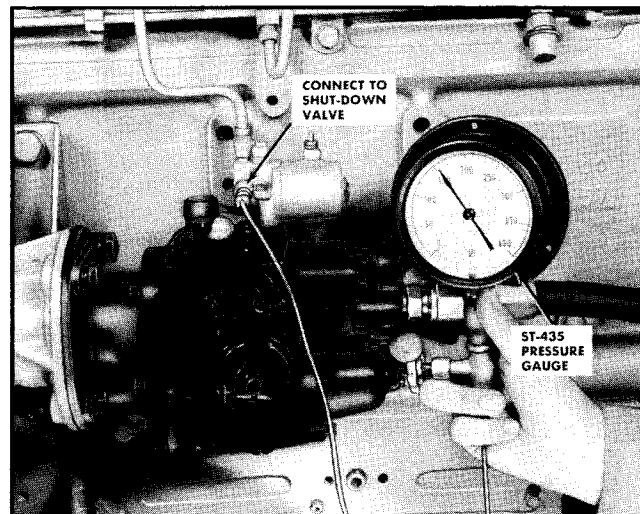

Fig. 3-16. Checking fuel manifold pressure
1. To check maximum manifold pressure, connect ST-435 to the pump shut-off valve. Remove the pipe plug from the shut-off valve to connect the pressure gauge line. Fig. 3-16. At governed speed (just before the governor cuts in) the maximum manifold pressure will be attained.